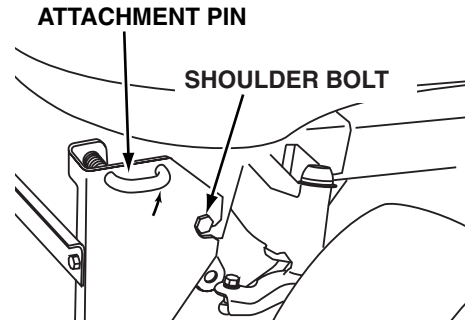

Figure 13
24. Pull out on the hitch assembly's attachment pins and swing the pins down away from the holes they were in. See figure 13.
25. Hook the hitch assembly onto the shoulder bolts in the tractor frame. See figure 13.
26. Align the holes in the hitch assembly with the holes in the tractor frame. Insert the attachment pins to lock the hitch assembly in place. See figure 13.